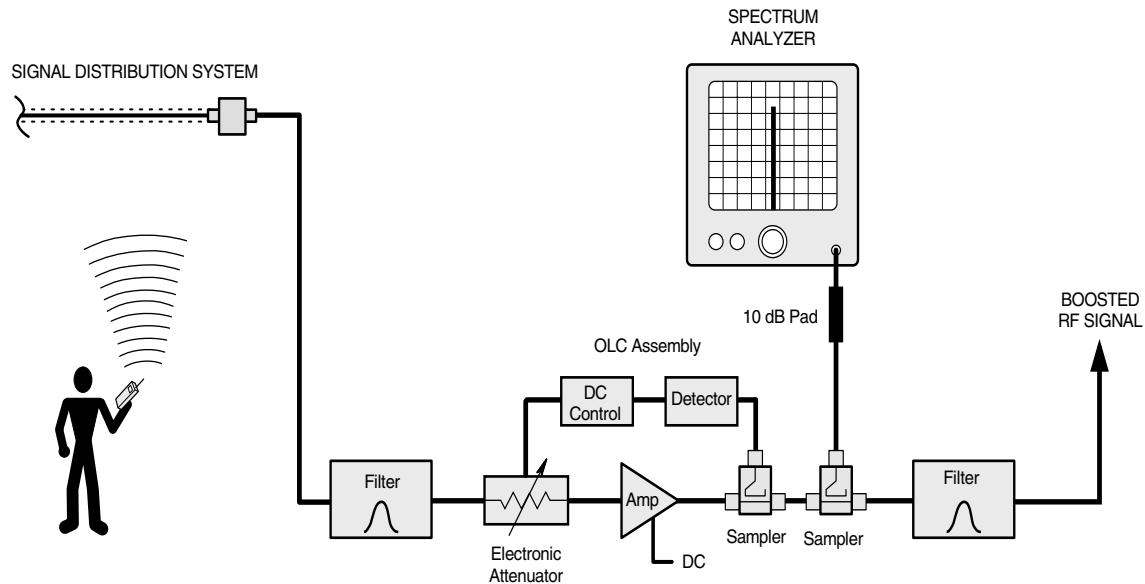

Figure 10: Test equipment interconnection for surveying performance.
- 3) With a spectrum analyzer connected to the signal sampler port for the branch under test (see **Figure 10**), have personnel with handheld radios move to predetermined points and key their radios. Record the level of these signals as observed on the analyzer and also record the location of the person transmitting. In this way, a map of the systems performance can be generated.